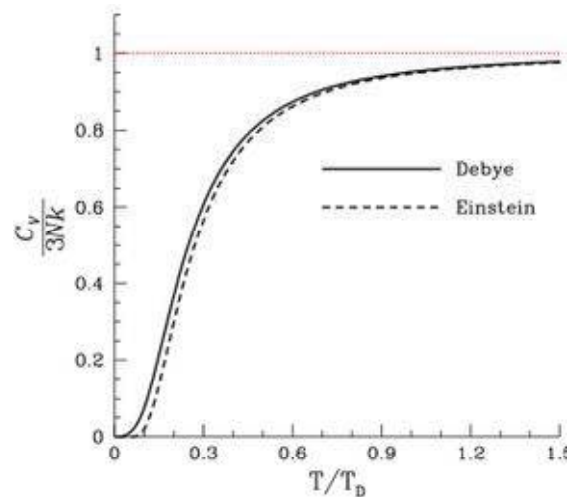

Figure 3.1: Variation of dimensionless heat capacity.
- (b) The variation of dimensionless heat capacity, equation (3.9), with temperature is shown in Fig. 3.1 as predicted by the Debye model and by Einstein's model.